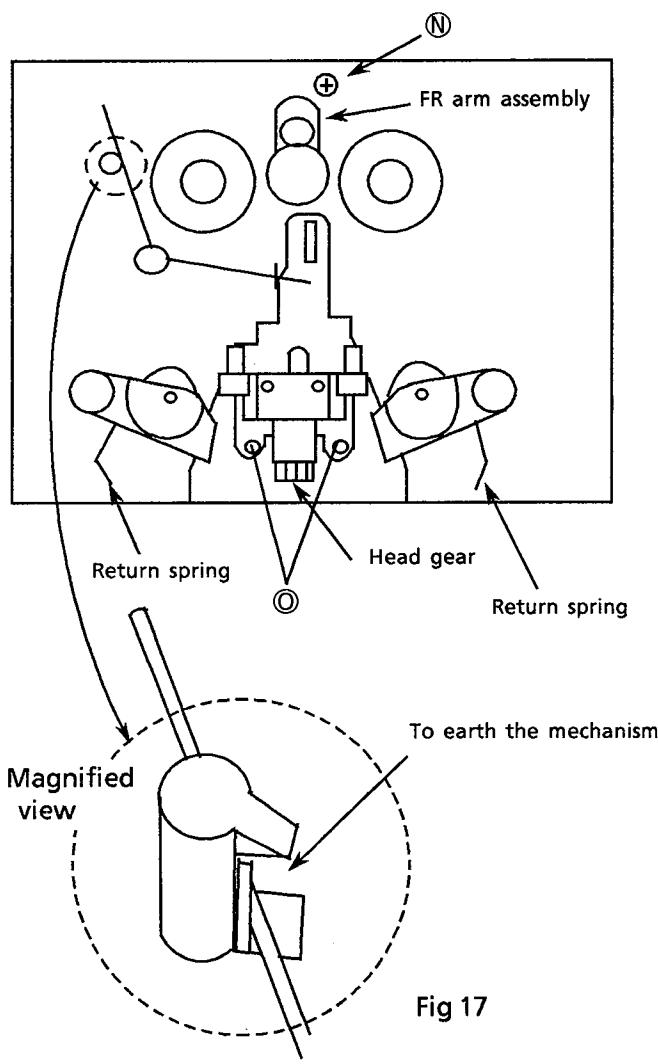

Fig 17
3. Remove the 2 screws  $\odot$  fixing the head assembly (Fig 17).
1. Release the return spring (Fig 17).
3. Remove the FR arm assembly (Fig 17).
4. Remove the screw  $\textcircled{N}$  fixing the motor (Fig 17).